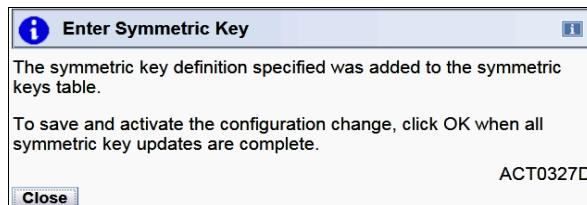

Figure 8-15 Enter Symmetric Key successfully added
5. The Enter Symmetric Key window opens. Click **Close** to add the Symmetric Key (Figure 8-15).